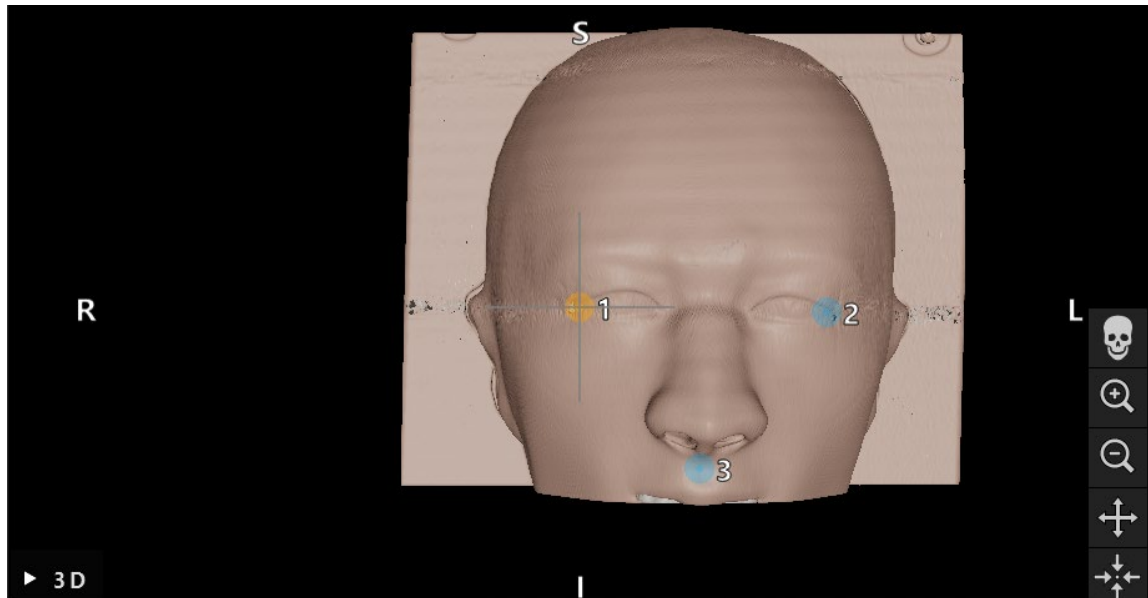

Figure 139 Touch landmark 1 on patient
1. Touch the flashing landmark as precisely as possible with a pointer on the patient. Hold the pointer still until you hear a confirmation tone, or the process wheel in the message view is complete and a new landmark starts flashing (see Figure 139).